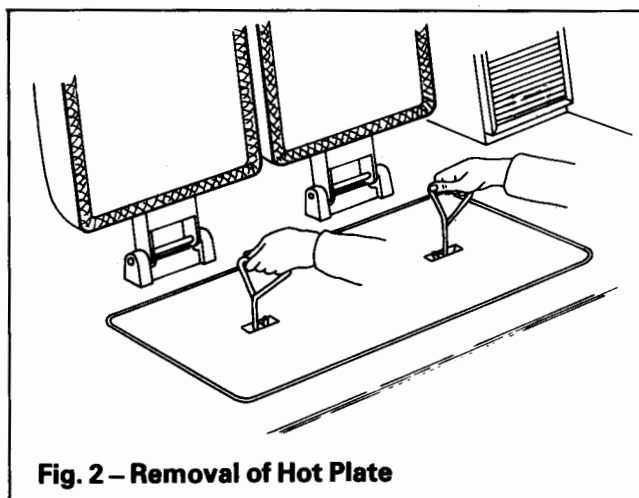

Fig. 2 – Removal of Hot Plate
- Lift out the hotplate via the lifting tools – See Fig. 2.